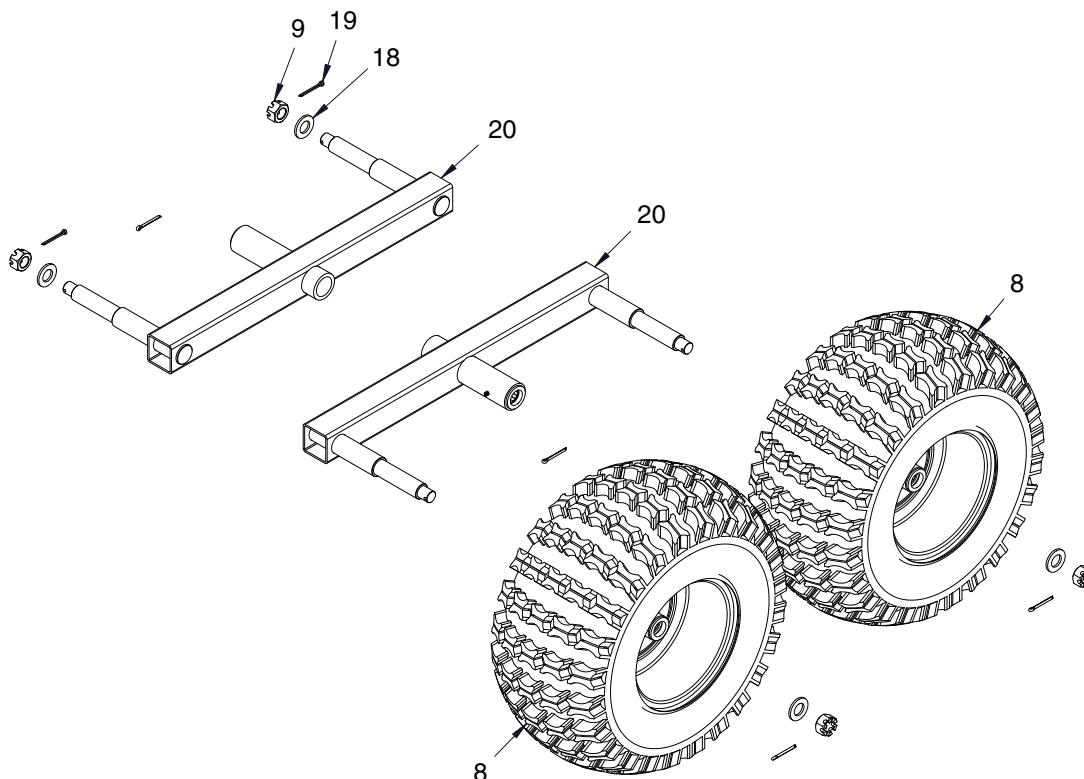

FIGURE 2
- Support the trailer far enough off the ground for the assembly of the Extreme Tracking Beam and wheels. Slide the Extreme tracking beam onto the threaded axle spindle with grease fitting facing upward. Secure in place following this order: 3/4" washer, 3/4" crown nut and cotter pin. Back crown nut off just enough so tracking beam will pivot freely and crown nut slot aligns with hole in threaded axle spindle. Insert cotter pin. Using a needle nose pliers, bend cotter pin ears around so it will not come off the axle spindle. Repeat this step for remaining tracking beam. **SEE FIGURE 2.**
- Slide the wheel onto the threaded axle spindle of tracking beam with grease fitting facing outward. Secure in place following this order: 3/4" washer, 3/4" crown nut and cotter pin. Back crown nut off just enough so wheel spins freely and crown nut slot aligns with hole in threaded axle spindle. Insert cotter pin. Using a needle nose pliers, bend cotter pin ears around so it will not come off the axle spindle. Repeat this step for remaining three wheels. **SEE FIGURE 2.**